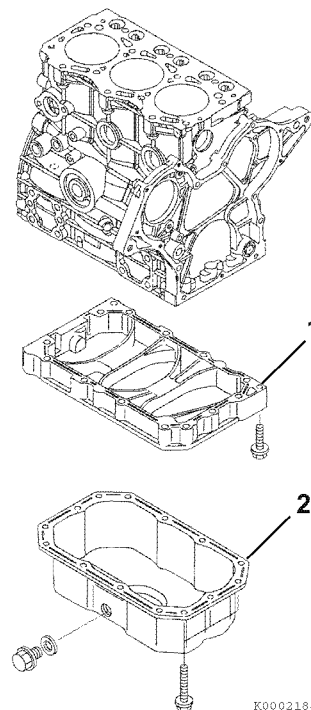

Figure 6-45
2. Remove the oil pan (**Figure 6-45, (2)**).
3. Remove the crankcase extension (**Figure 6-45, (1)**) if equipped.